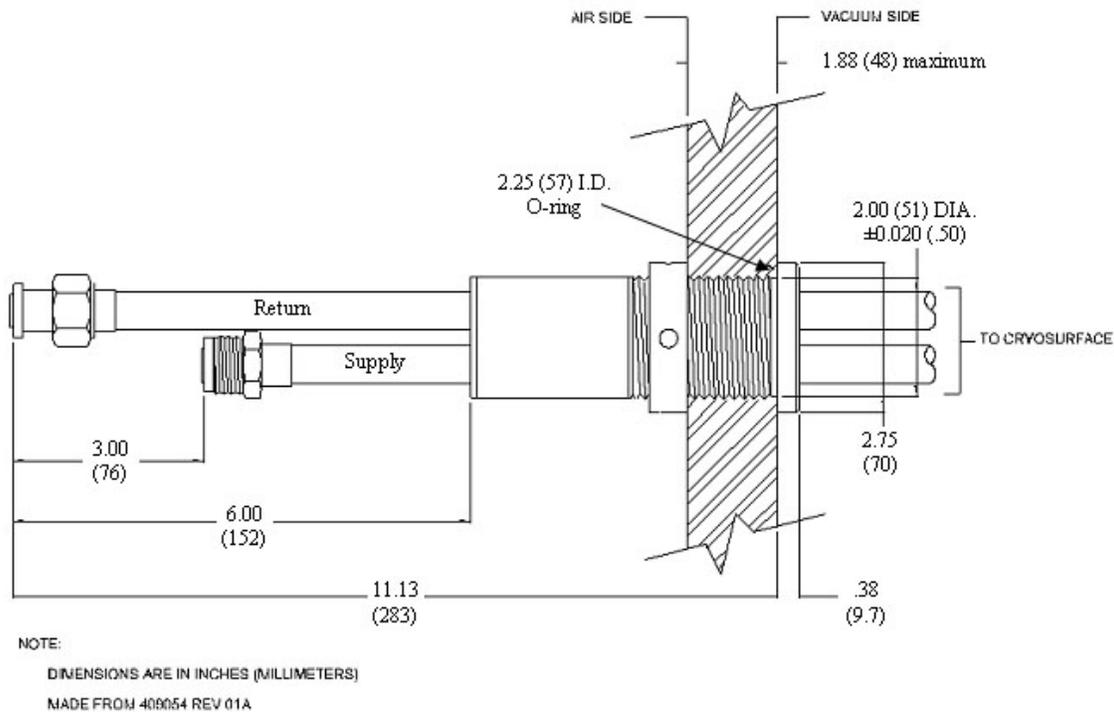

Figure 4-13: Typical Feedthrough
6. Tighten the feed-through nut finger-tight and position the cryosurface. If the cryosurface has fasteners, secure them at this time. See Figure 4-13.